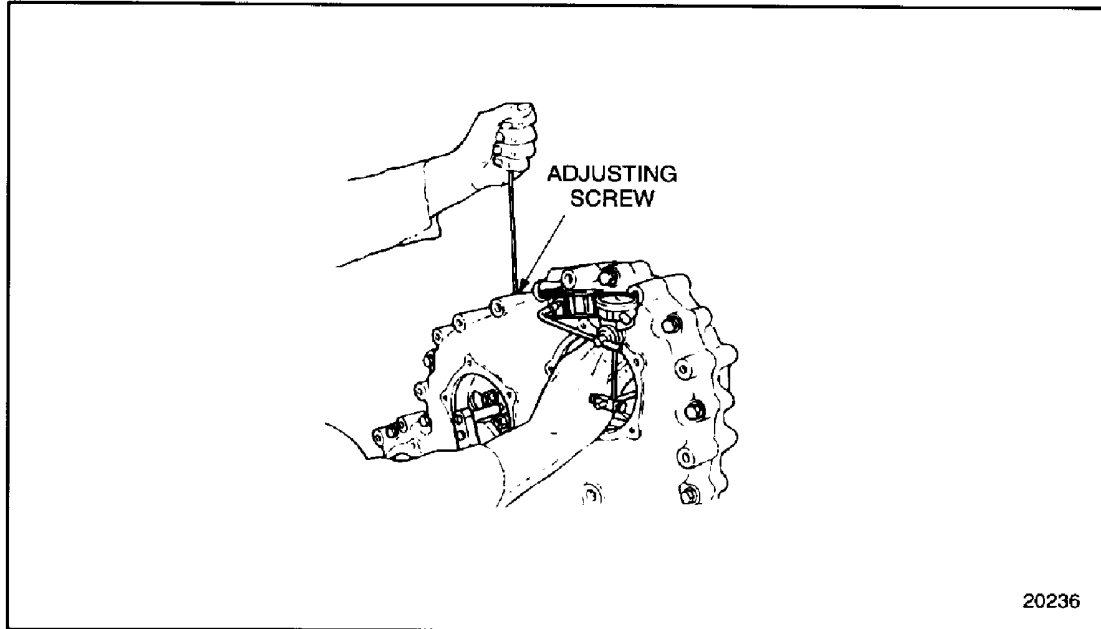

Figure 1-281 Checking Adjustable Idler Gear-to-Camshaft Drive Gear Lash
- [l] When checking gear lash, hold the adjustable idler gear stationary. Refer to step 9[i] as the first step and refer to step 9[j] as the final step, and rotate the camshaft drive gear with your right hand. See Figure 1-281.